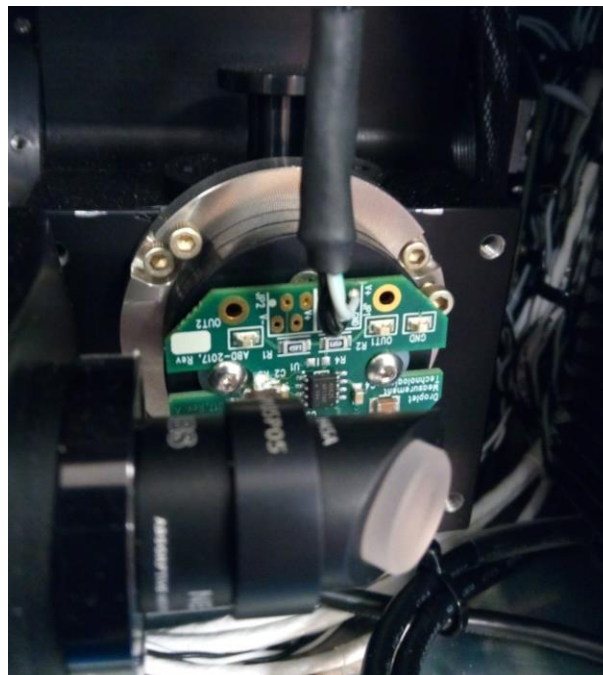

Figure 27: Laser power monitor board
3. The front panel can be placed to the side. Locate the laser power monitor circuit board (Figure 27).